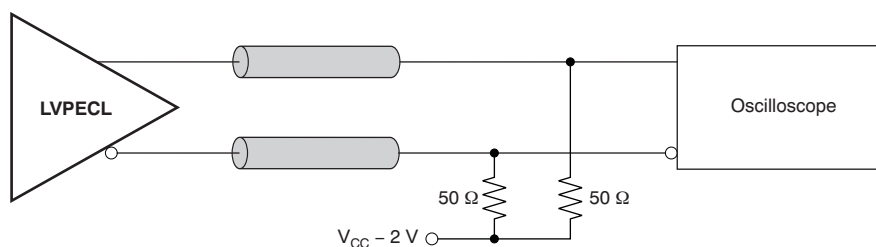

Figure 10. LVPECL Output DC Configuration During Device Test
(1) Figure 10 and Figure 11 show DC and AC test setup.
(2) Parameter is specified by characterization. Not tested in production.
(3) Input source: 122.88-MHz Rohde & Schwarz SMA100A Signal Generator.
(4) Input source RMS Jitter (t_{RJIT_IN}) and Total RMS Jitter (t_{RJIT_OUT}) measured using Agilent E5052 Phase Noise Analyzer. Buffer device random additive jitter computed as: $t_{RJIT} = \text{SQRT}[(t_{RJIT_OUT})^2 - (t_{RJIT_IN})^2]$.
(5) Input source: 156.25-MHz Rohde & Schwarz SMA100A Signal Generator.
(6) Input source: 312.5-MHz Rohde & Schwarz SMA100A Signal Generator.